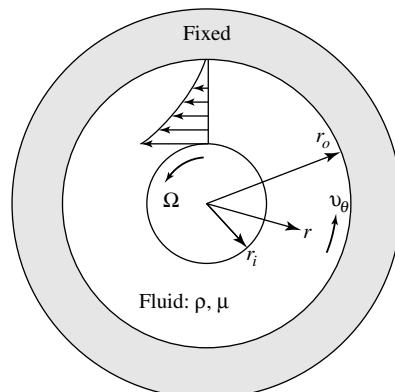

Fig. 4.17
- 4.81** Modify the analysis of Fig. 4.17 to find the velocity  $v_\theta$  when the inner cylinder is fixed and the outer cylinder rotates at angular velocity  $\Omega_0$ . May this solution be added to Eq. (4.146) to represent the flow caused when both inner and outer cylinders rotate? Explain your conclusion.